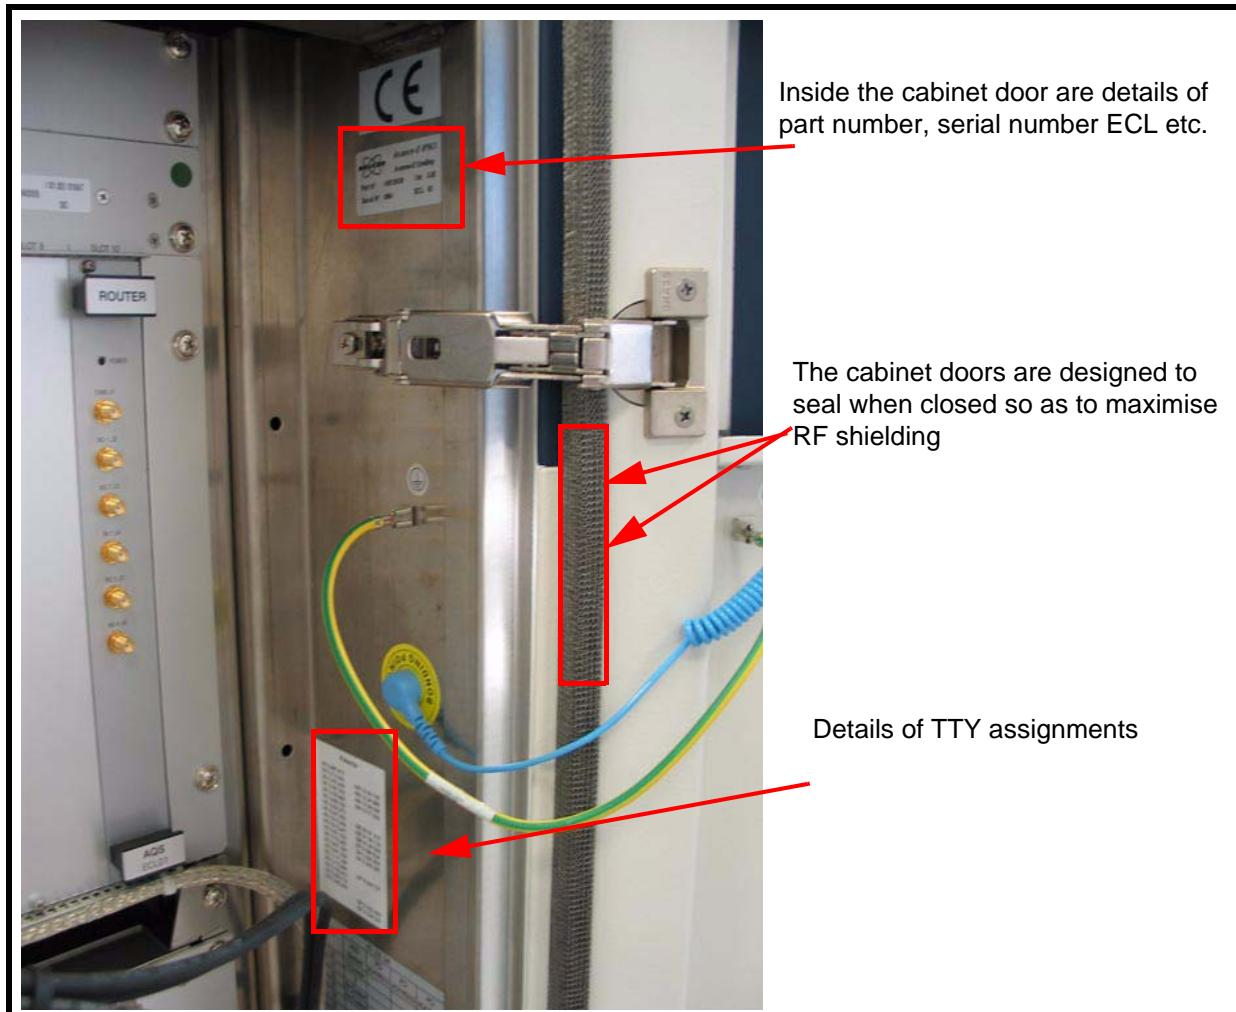

Figure 2.9. Cabinet Production Details
- The cabinet should be left permanently closed when operating as this will maximize the shielding and reduce the effect of any electromagnetic disturbances from outside. Care is taken in choosing the material from which the cabinet is constructed to maximize radiation shielding. Keeping the cabinet closed will also reduce any disturbances caused by temperature fluctuations. The cabinet is designed to be sealed from electromagnetic interference (see Figure 2.9). It is worth noting that steady temperatures in the laboratory itself are always conducive to reliable NMR data.
The location of the serial number and ECL level of the cabinet is shown Figure 2.9. While the physical structure of the cabinets is relatively independent of any